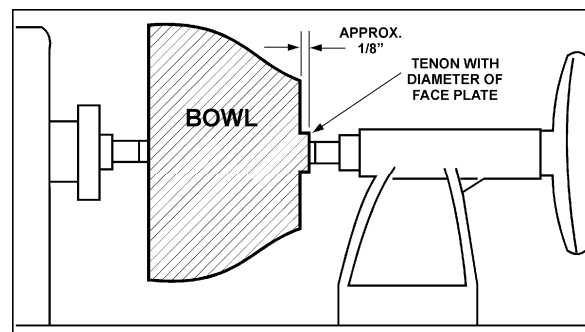

Figure 30
8. Turn a short tenon (about 1/8" long) the size of the hole in the faceplate. See Figure 30. This will allow centering the workpiece when the faceplate is attached.